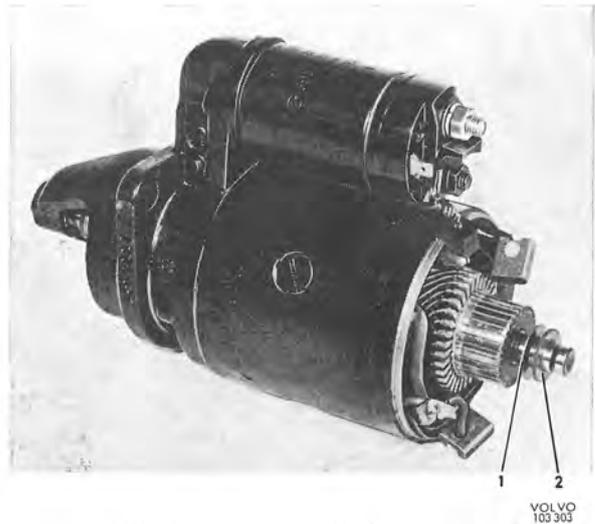

Fig. 3-34. Starter motor with brush bridge removed
5. Remove the bridge from the armature shaft. N.B. The washers are as shown in Fig. 3-34.
8. Fit the washers on the armature shaft as known in Fig. 3-34.